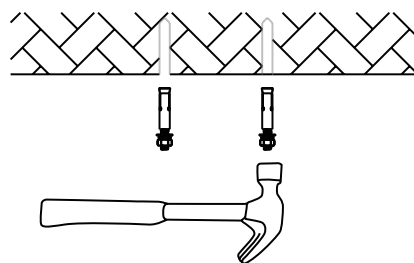

Figure 6
2. Place screws or wall plugs into the holes and tap them in with a hammer (Figure 6)